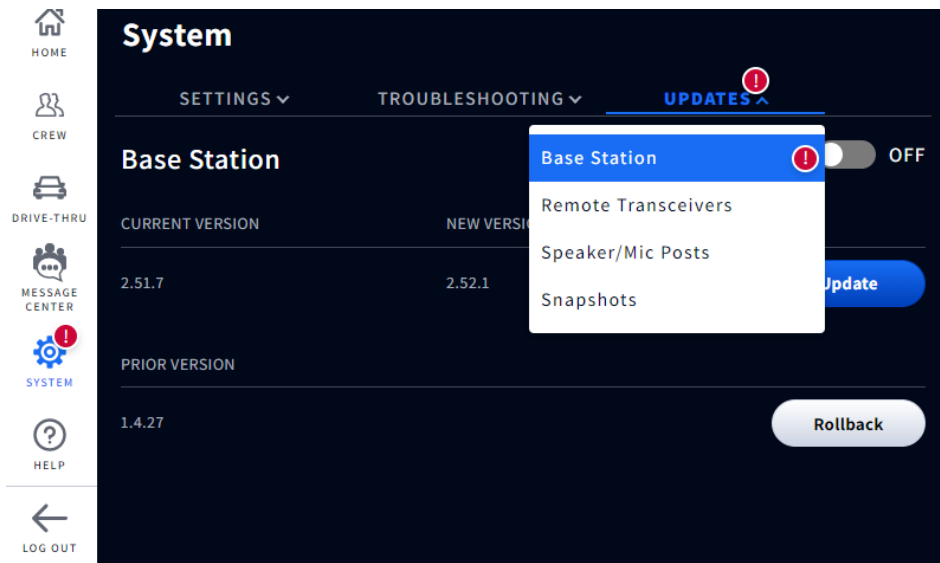

Fig. 6.6
4. Tap the **Update** button that appears on the right. See Fig. 6.6.